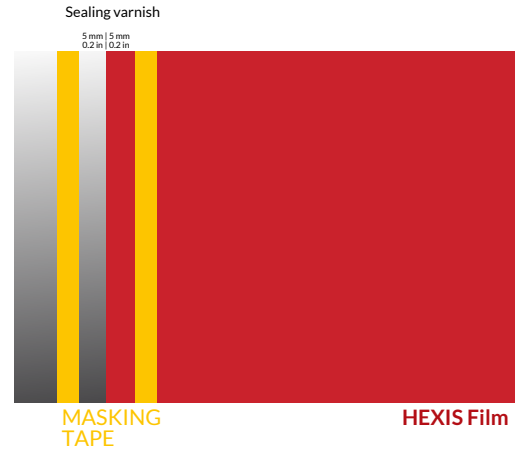

Figure 08
- 1 to the upper film at 5 mm (0.2 in.) from its edge. (FIG. 08)